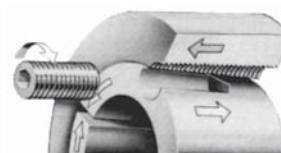

Fig. 2
3. Screw in lightly greased or oiled assembly screws. Do not tighten the screws yet (Fig. 2).